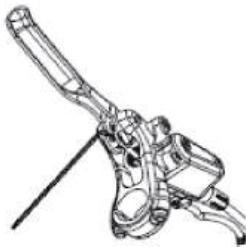

Figure 3-1 Grip Adjustment Screw Adjustment Methods
① When using a 2mm hexagonal spanner to make adjustments, turn clockwise to increase the grip distance (up to 100mm), and counterclockwise to increase the grip distance (down to 80mm, as shown in Figure 3-1).
② If you turn the 2mm hexagonal spanner after adjusting the grip distance to the maximum (about 100mm) by turning clockwise, the aluminium piston of the brake lever will move forward and the handle will be easily pressed (the braking force will be increased at this time), but it may cause the function of the automatic oil replenishment to be ineffective.